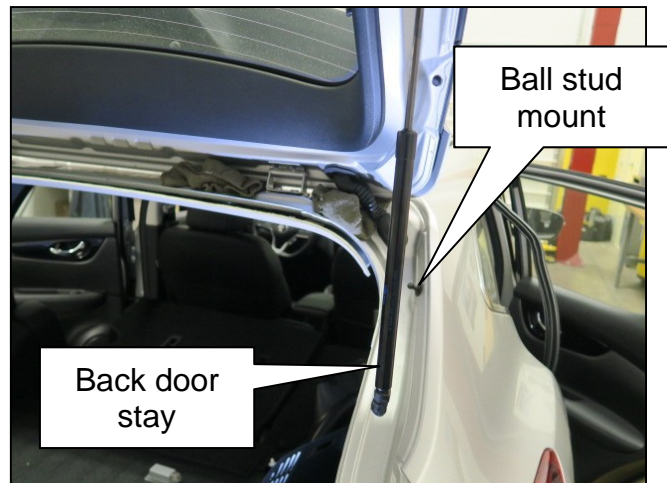

Figure 18
- Allow the back door stay to hang freely, as shown in Figure 18.